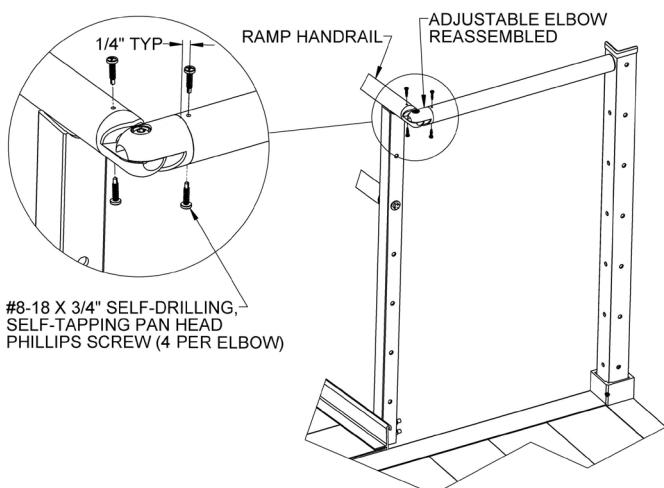

FIG. 5.6
- 5.4.9. Drill 3/32" or 1/8" pilot holes through the 1-1/2" diameter tubes adjacent to the elbows. The holes should be in line with the assembly fasteners and approximately 1/4" from the elbow (FIG. 5.6).
- 5.4.10. Drive #8-18 x 3/4" self-drilling, self-tapping pan head Phillips screws into the holes drilled in the previous step. Tighten securely but use caution not to overtighten and strip the threads (FIG. 5.6).
- 5.8.7. Drill 3/32" or 1/8" pilot holes through the 1-1/2" diameter tubes adjacent to the elbows. The holes should be in line with the assembly fasteners and approximately 1/4" from the elbow (FIG. 5.6).
- 5.8.8. Drive #8-18 x 3/4" self-drilling, self-tapping pan head Phillips screws into the holes drilled in the previous step. Tighten securely but use caution not to overtighten and strip the threads (FIG. 5.6).